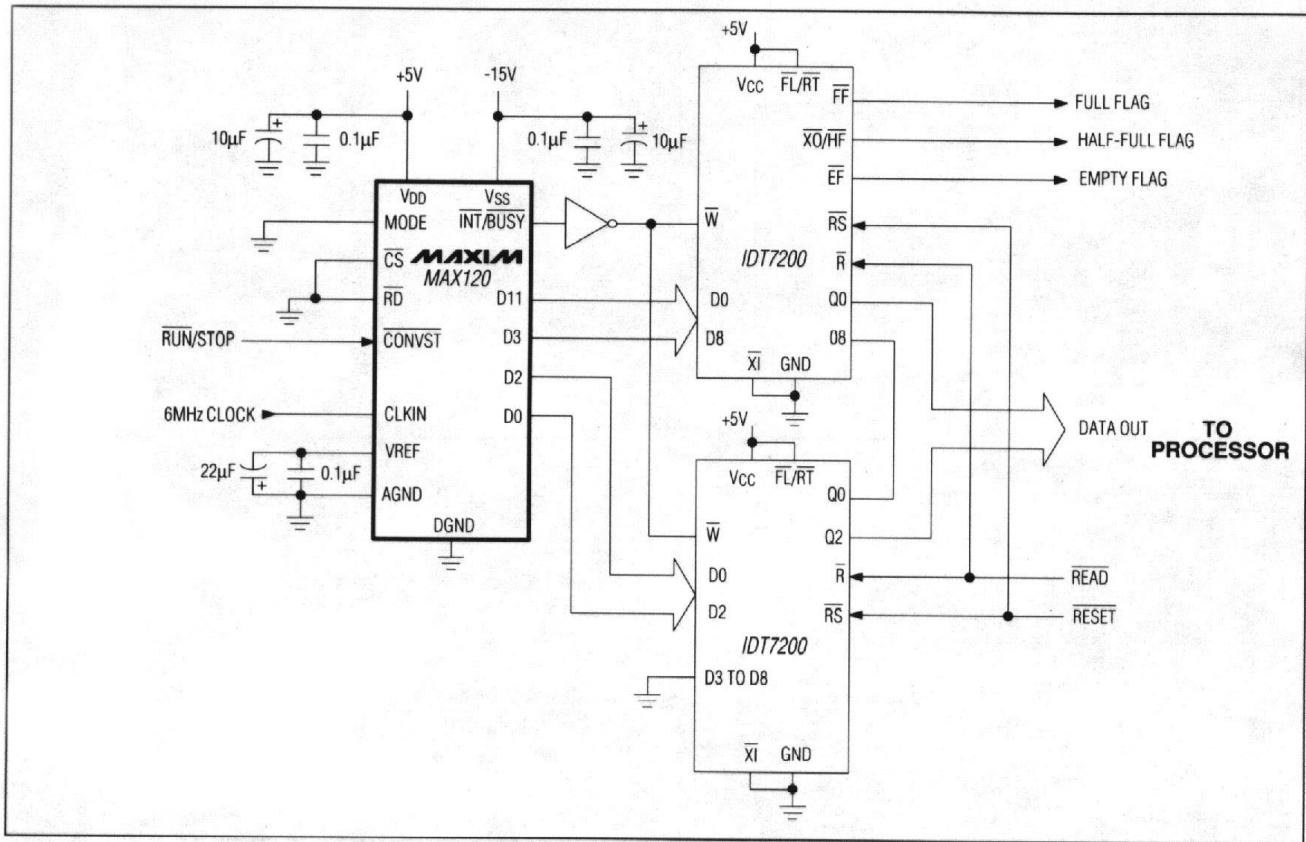

Figure 13. Using MAX120 with FIFO Memory
Using FIFO memory to buffer blocks of data from the MAX120 reduces  $\mu$ P interrupt overhead time by enabling the  $\mu$ P to process data while the MAX120, unassisted, writes conversion results to the FIFO. To retrieve a block of data, the  $\mu$ P reads from the FIFO via a read-interrupt cycle. Read and write operations for the FIFO are completely asynchronous. Figure 13 shows the MAX120 operating in continuous-conversion mode (mode 5), writing data directly into the two IDT7200 256 x 9 FIFO buffers at the rate of 428kps. The  $\mu$ P is interrupted to read the accumulated data by the FIFO's half-full (HF) flag approximately three times per millisecond. For operation at 500kps, use an 8MHz clock, and pulse  $\overline{CONVST}$  at 500kHz. The full flag (FF) indicates that the FIFO is full. If this flag is ignored, data may be lost. If necessary, conversions can be inhibited by pulling  $\overline{CS}$ ,  $\overline{RD}$ , or  $\overline{CONVST}$  high. The FIFO's read cycle times are as fast as 15ns, satisfying most system speed requirements. The RESET input resets all data in the FIFO to zero.